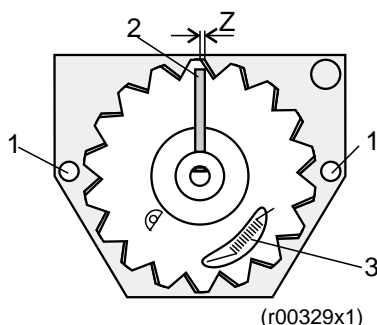

Figure 10: Position sensor SP 1
- Set the stop pin to the center position, as seen in Figure 10.
- Turn the potentiometer until the set screw is in 12:00 o'clock position (see Figure 10).
- Align the sensor and its gears with the actuator; set the first toothed gear in 09:00 o'clock position onto the drive shaft gear (4).
- Fasten the screws (1) tightly.